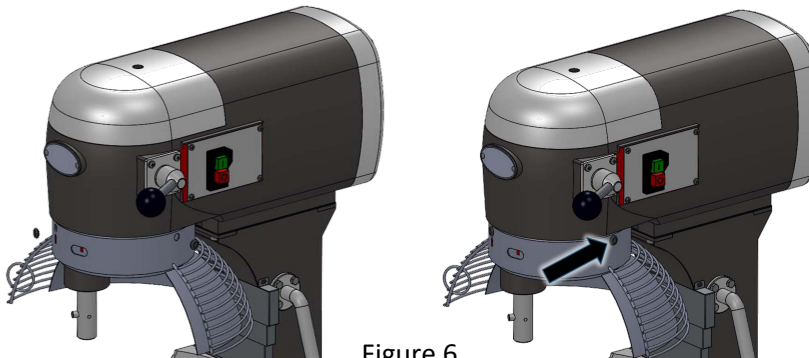

Figure 6
5. Ensure that all rubber caps are fitted properly into the screw heads. See figure 6.